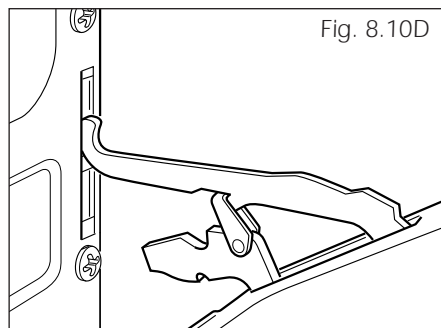

Fig. 8.10D
- Withdraw the upper hinge pins from their location (fig. 8.10D).